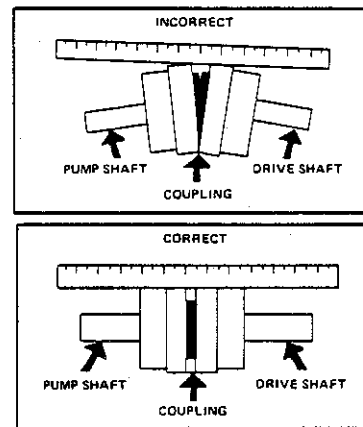

FIGURE 5
7. To assure parallel alignment (Figure 5)